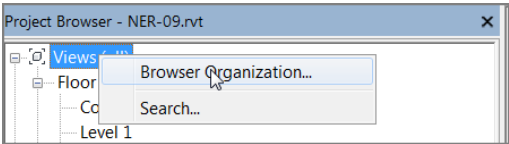

FIGURE 8.72: Right-clicking in the Project Browser
4. In the Project Browser, right-click Views (All), as shown in Figure 8.72.